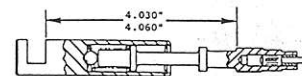

Fig. 262—Collapsed length of modulating valve should be 4.030—4.060 as shown. Length is adjusted by installing a different size spacer ball (4—Fig. 261).
Spacer ball (4) is available in alternate diameters of $\frac{1}{4}$, $\frac{3}{8}$, $\frac{1}{2}$ and $\frac{3}{4}$ inch and is used to establish collapsed length of modulating valve within the recommended 4.030-4.060 as shown in Fig. 262.